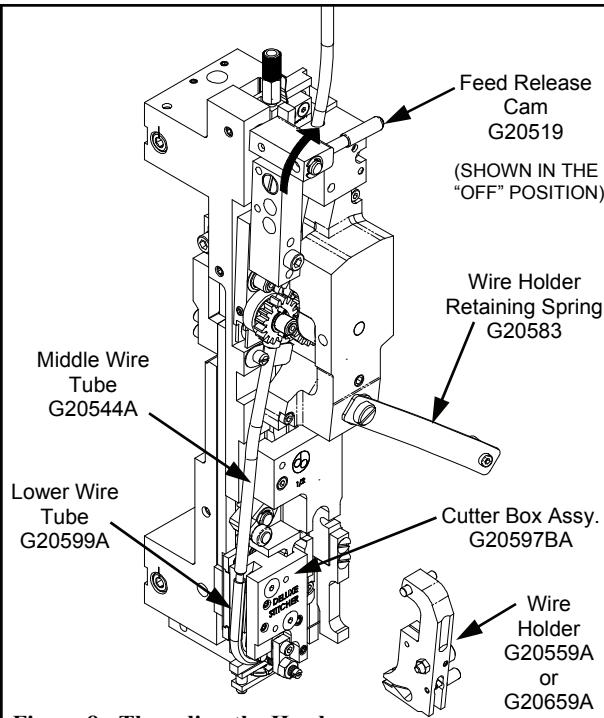

Figure 8 - Threading the Head
1. Slide the Wire Holder Retaining Spring over and remove the Wire Holder Assembly [Fig. 8].